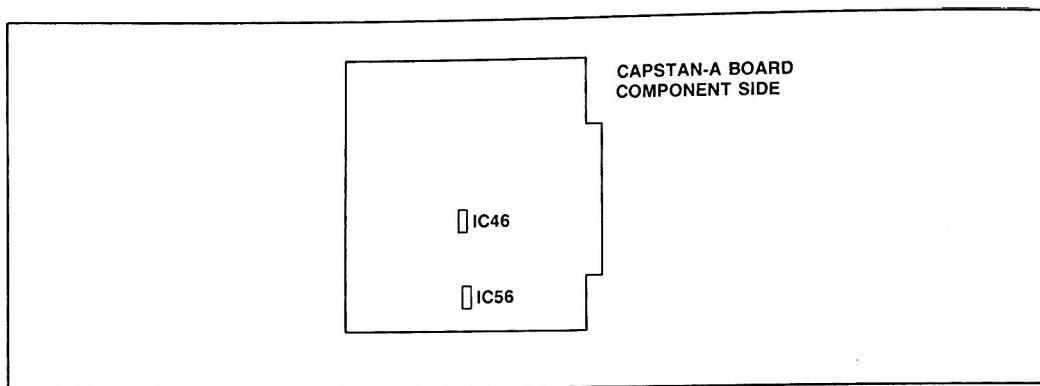

Figure 2
1. Replace IC46 and IC56 with the new chips (See Figures 2 & 3.)